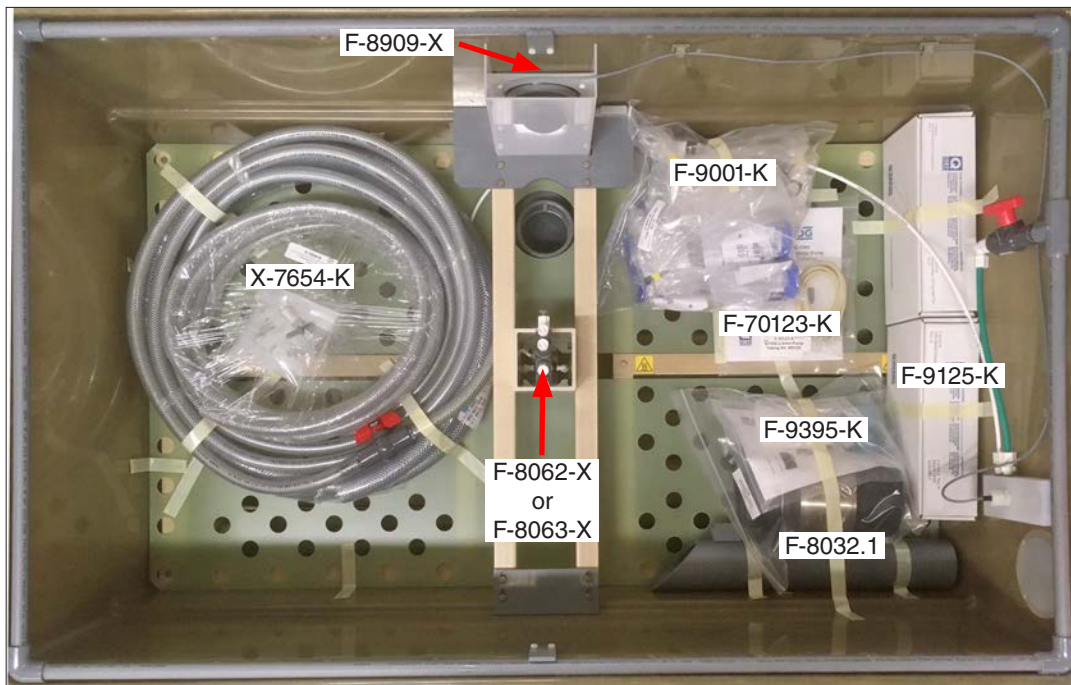

Figure 5.5: Q-FOG test chamber lid open to show accessories.
- Open the Q-FOG lid to remove the accessories (Figure 5.5). Remove all tape and packaging material from the chamber.
- See Figure 5.5 below for a list of accessory items and location of setup instructions.